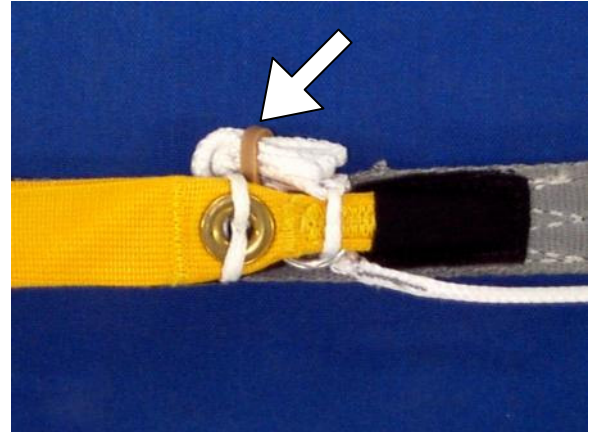

Figure 5. – Excess line stowed in rubber band.
2. Set the brakes as normal. S-fold the excess steering line and stow it in the half rubber band as shown in *Figure 5*. The S-folds should be made as short as possible to avoid leaving large loops of line exposed near the toggle.